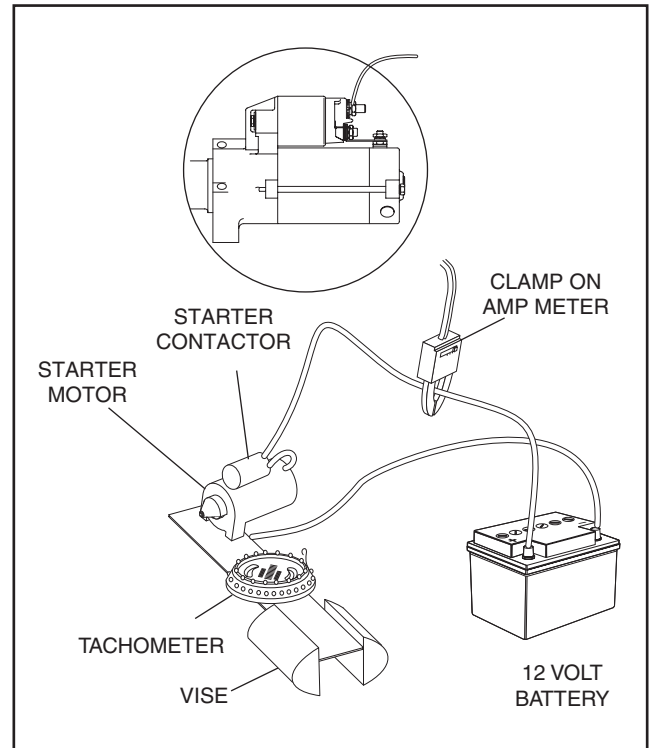

Figure 9. Testing Starter Motor Performance
It is recommended that the Starter Motor be removed from the engine when testing Starter Motor performance. Assemble starter to test bracket and clamp test bracket in vise (Figure 9).
2. Connect jumper cables and clamp-on ammeter as shown in Figure 9.